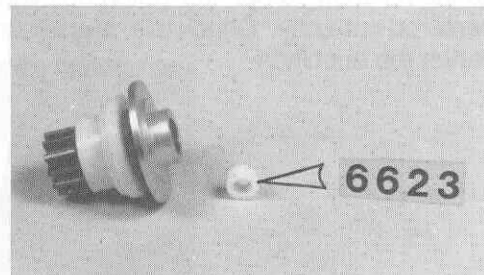

Fig. 61
- ☐ **Fig. 61** Take one of the #6623 small white Teflon bushings out.